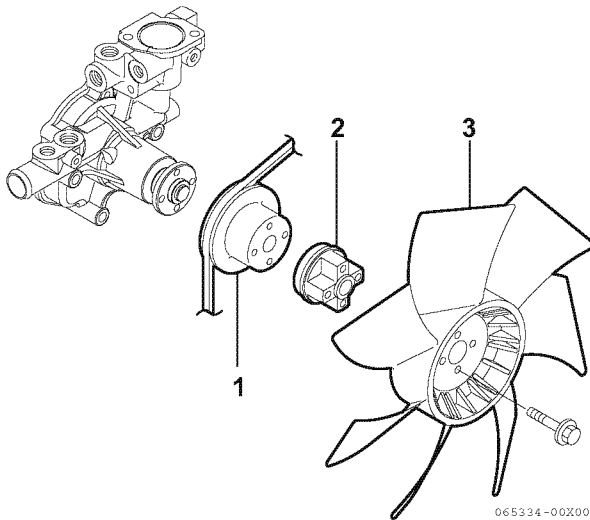

Figure 9-4
Remove the cooling water fan guard (if equipped), cooling fan (3, **Figure 9-4**), spacer (2, **Figure 9-4**), cooling water pump V-pulley (1, **Figure 9-4**), and V-belt.
7. Install the cooling water pump V-pulley (1, **Figure 9-4**), spacer (2, **Figure 9-4**), cooling water fan (3, **Figure 9-4**), and fan guard (if equipped). See *Installation of Engine Coolant Pump on page 8-9* for detail.